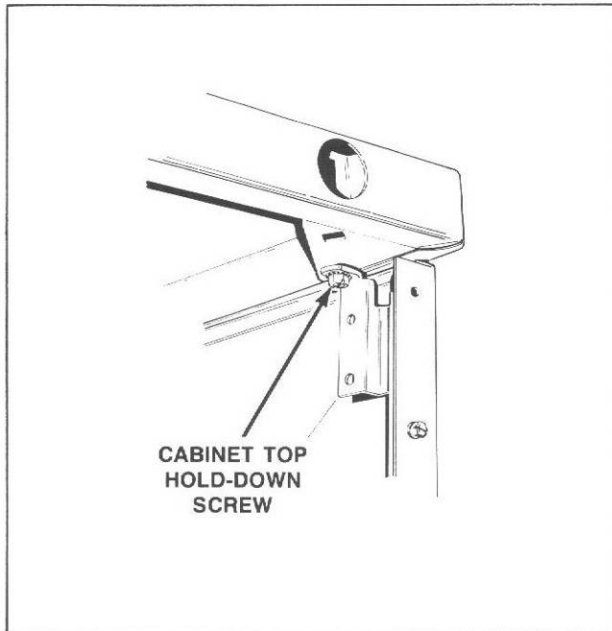

Figure 7
- Remove two cabinet top hold-down screws, Figure 7.